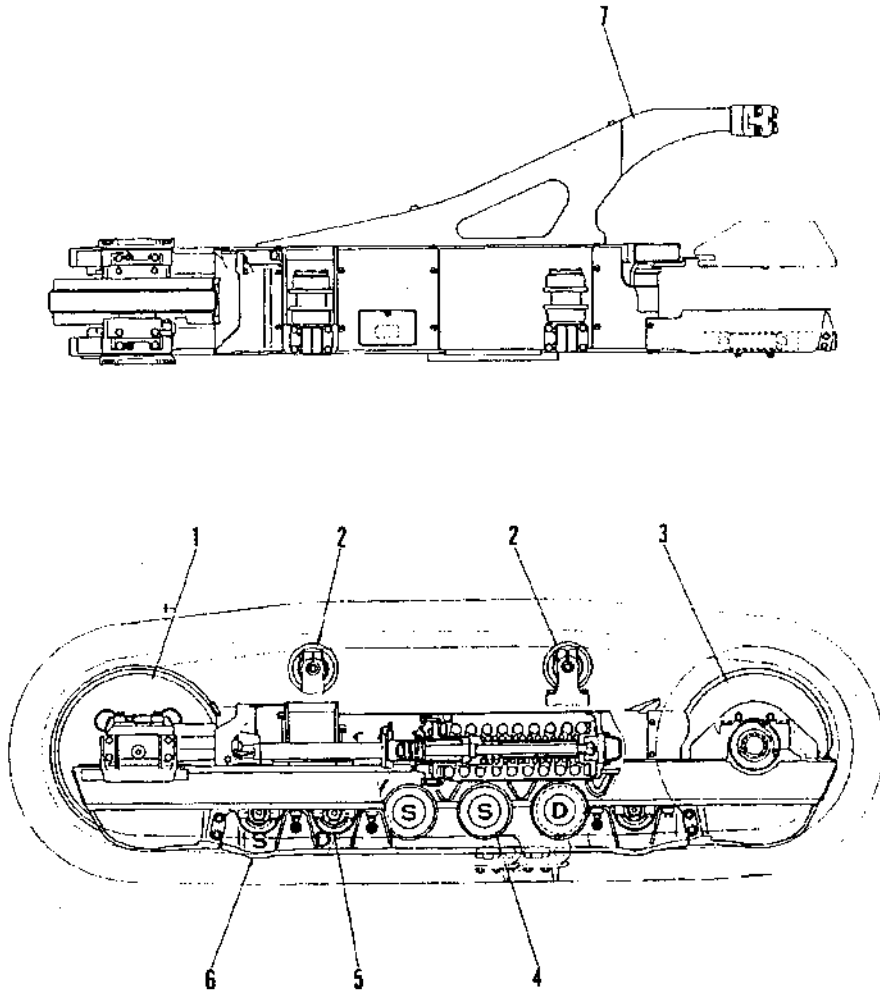

Fig. 2-34 Undercarriage (PD220Y-1)
The undercarriage mainly consists of track roller frames (7), sprocket covers (3), idlers (1), track rollers (4), (5), carrier rollers (2), tracks and track tension mechanism. (See Fig. 2-34, 2-35). It is used to make the machine move.